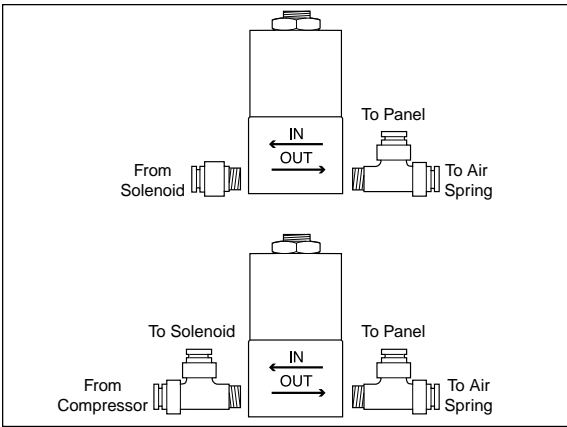

Figure 2
1. Install the fittings to the solenoids as shown in Figure 2. One port requires the use of  $\frac{1}{8}$ " N.P.T. straight fitting, while all the other ports take male run tees (Figure 2).
5. Route the left hand air spring air line along the frame and secure with nylon tie straps. Push the air line into one leg of the tee on the left solenoid (Figure 2 & 8).